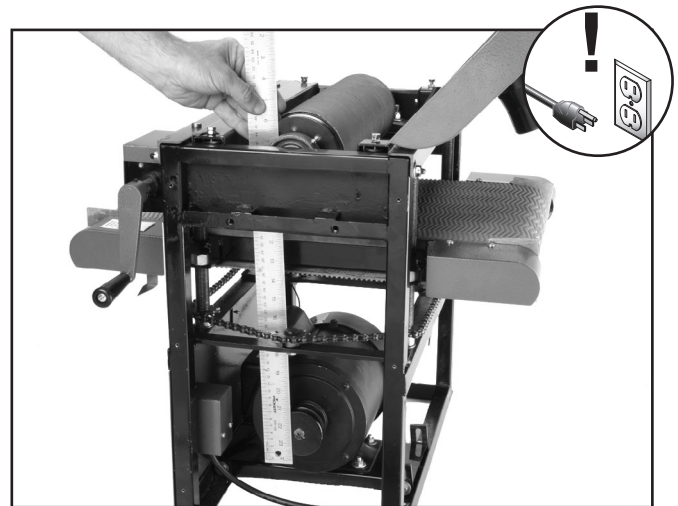

Figure 26. Checking pulley alignment with a straightedge.
4. Place a straightedge across the face of the motor pulley and drum pulley to check the alignment. The straightedge should sit evenly on the top and bottom part of both pulleys, as shown in **Figure 26**.